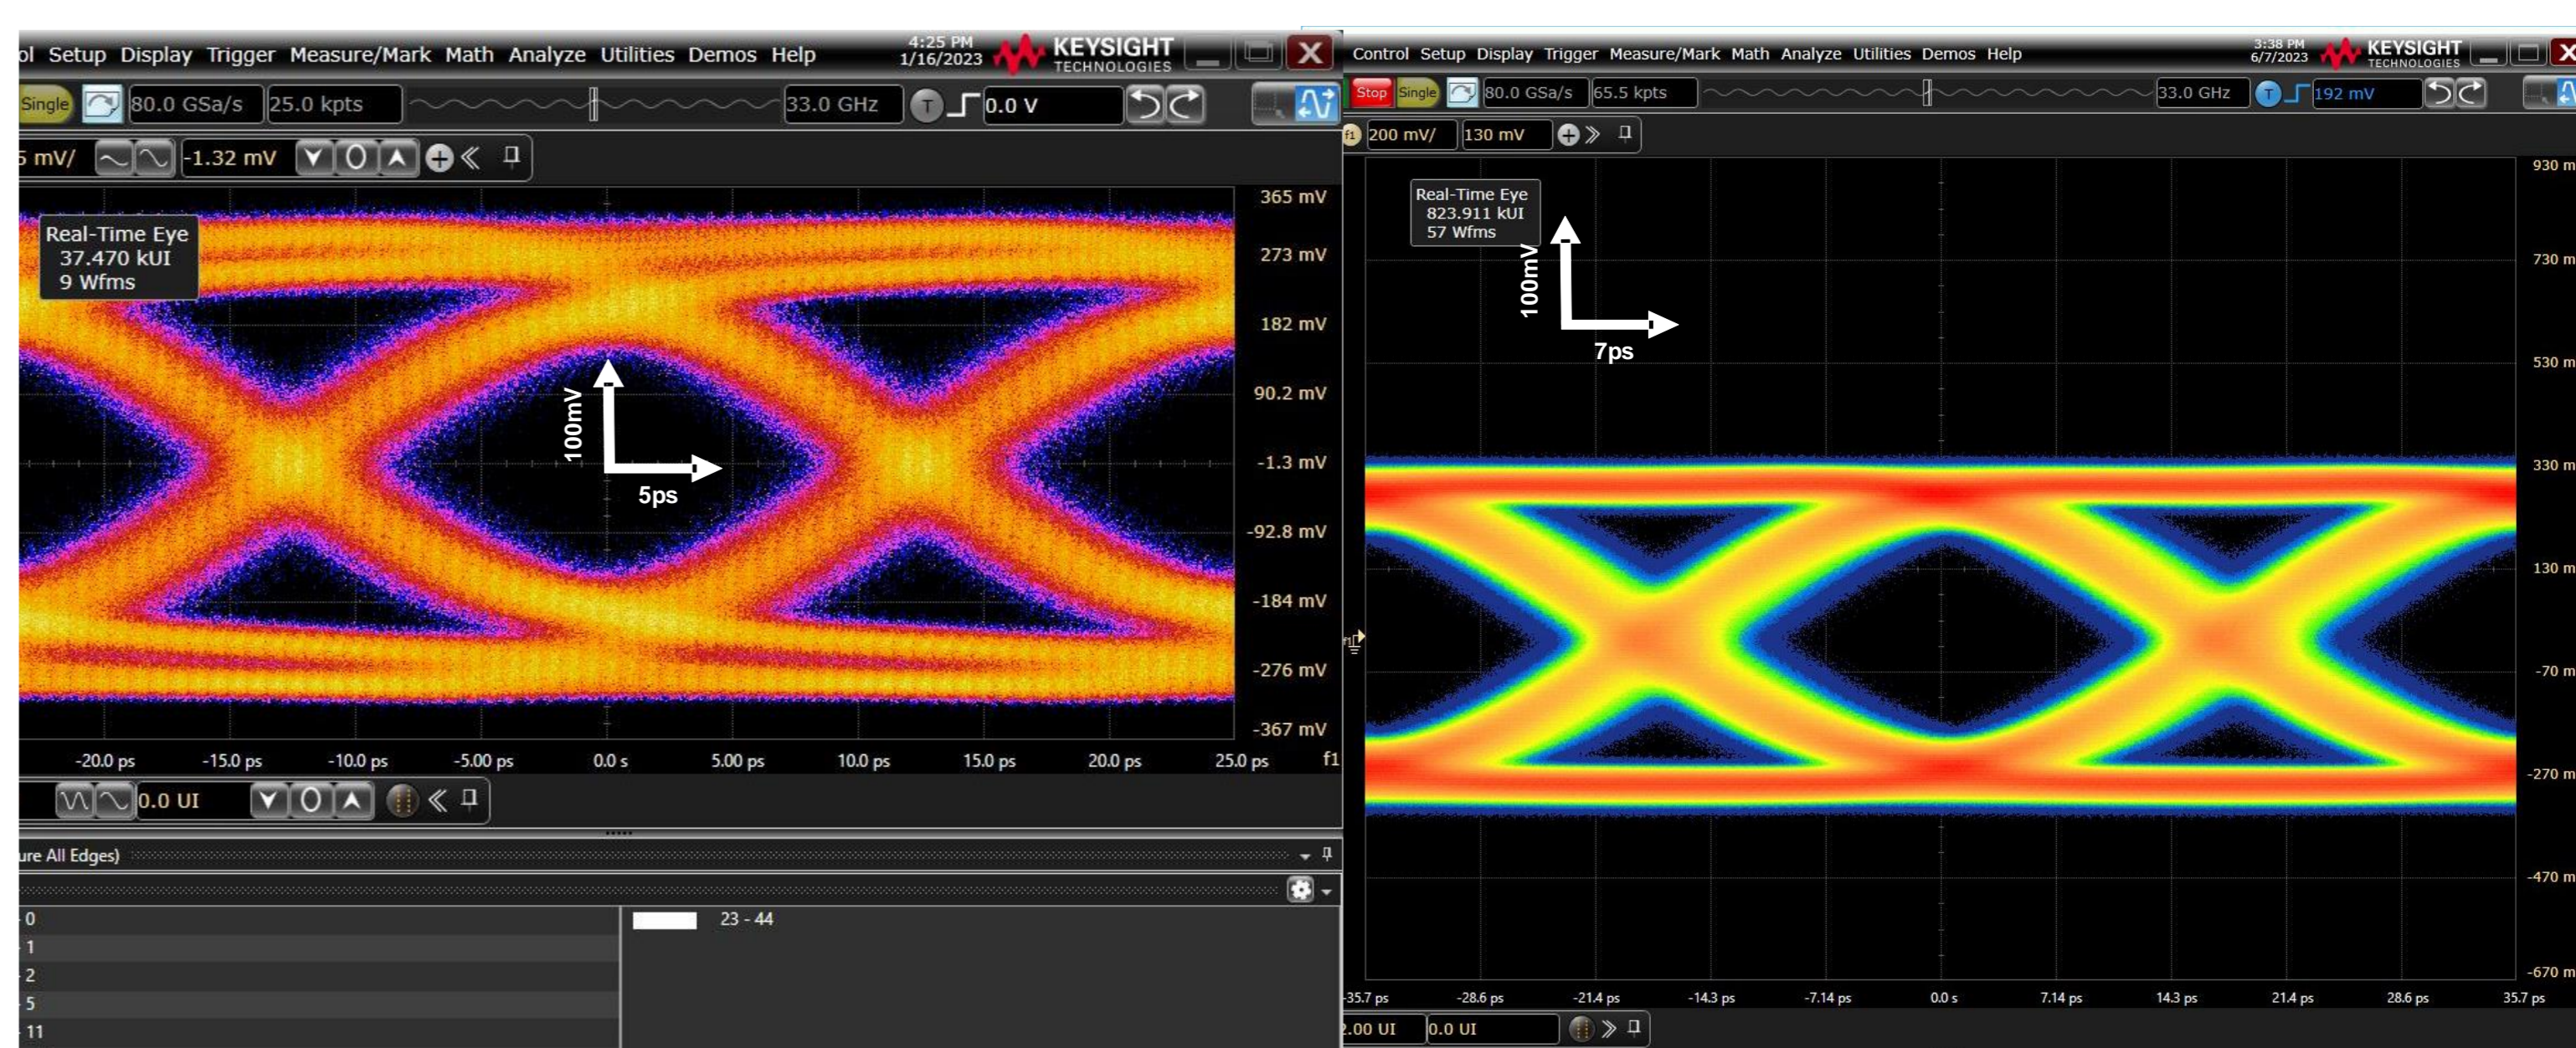

Fig 4. (a) 40Gb/s w/o ESD
- ❖ The eye diagrams are presented in Fig. 4